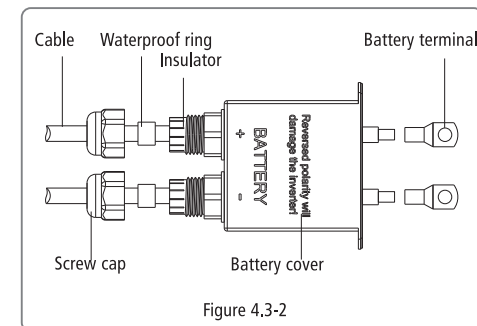

Figure 4.3-2
- Put the cable through the components in this order: screw cap, waterproof ring, insulator, battery cover and battery terminal. Refer to Figure 4.3-2.